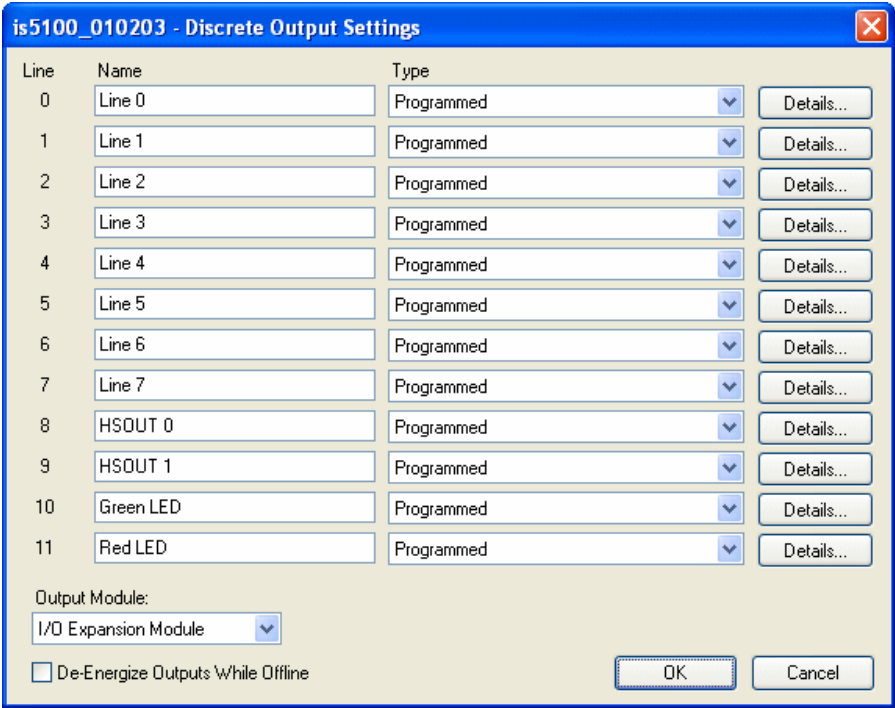

Figure A-2: Discrete Output Settings Dialog
4. Open the Output Module drop-down list at the bottom left of the window (Figure A-2) and select I/O Expansion Module. The Discrete Output window will automatically reconfigure to correspond to the I/O Expansion Module.